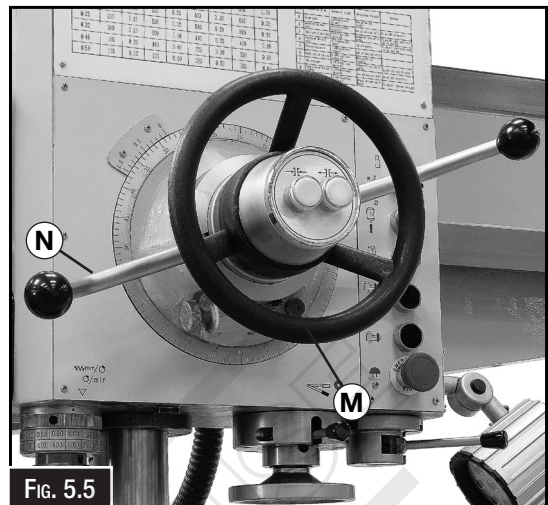

FIG. 5.5
- M. Depth Stop Clamp:** Clamps the depth stop dial after it has been set. (Fig. 5.5)
To perform the 30mm drilling depth process, the graduation dial should be set to 30, then locked with the eccentric lever (M in Fig 5.5). It should be locked when the auto feed is activated.